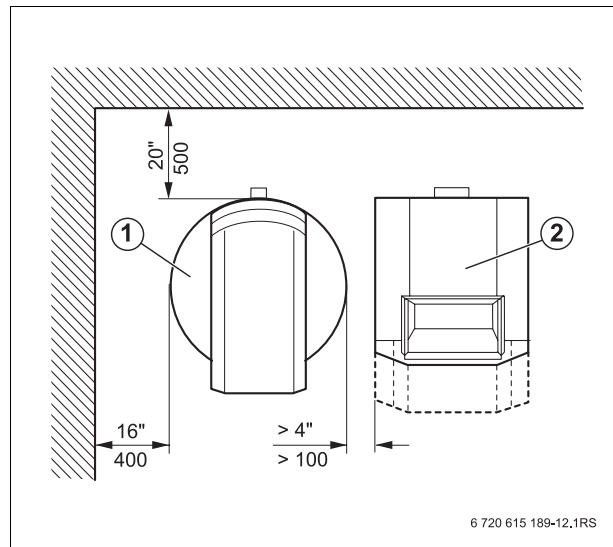

Fig. 7 Recommended minimum clearances (in inch/mm)
- Verify for suitable clearance dimensions by referencing (→ Tab. 1, page 9 und Fig. 7).
- Maintain suggested service access dimensions (→ Fig. 7).